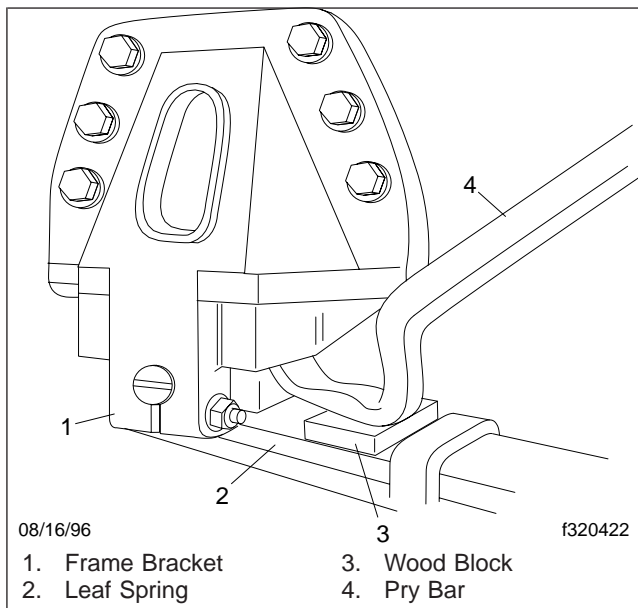

Fig. 19, Hendrickson RT2 and RTE2 Series Frame Bracket Inspection
6. Place a block of wood on the leaf spring. See Fig. 19. Place a pry bar on the block of wood and insert the end of the pry bar under the frame hanger. Attempt to lift the frame hanger, as shown in Fig. 19. Also, with an empty chassis and the brakes applied, attempt to rock the chassis back and forth while observing the spring eye. In either case, if 1/8 inch or more of move-